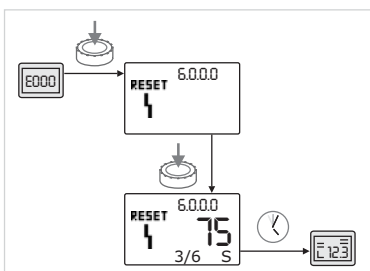

Fig. 50: Acknowledging error type B (X < Y)
- If the current incidence of the error is less than the maximum incidence (Fig. 50):